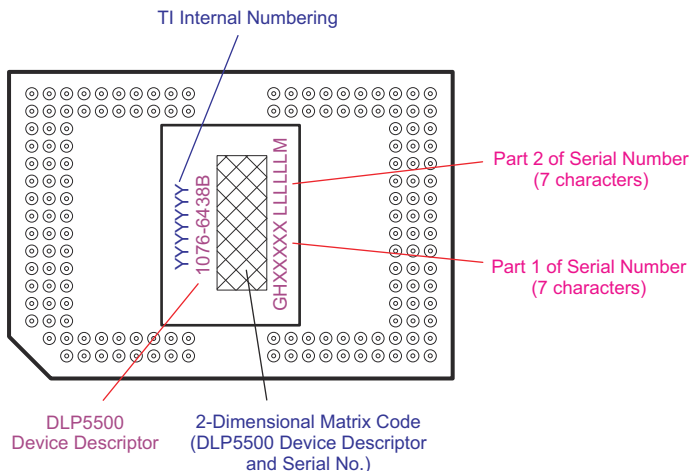

图 11-1. DMD Marking (Device Top View)
The device marking consists of the fields shown in 图 11-1.
- Changed DMD Marking Image Object for 图 11-1 ..... **36**